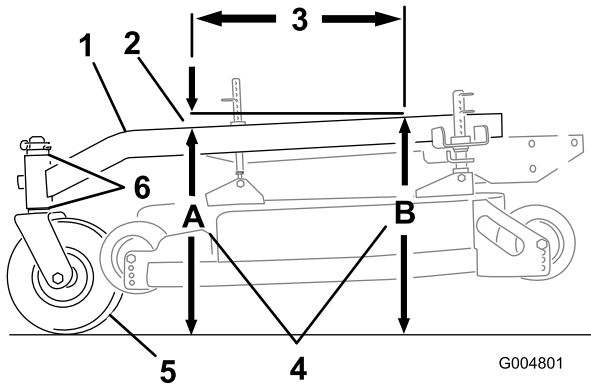

Figure 54
The carrier frame must have a pitch between 3 mm (1/8 inch) to 9 mm (3/8 inch) over the length of 61 cm (24 inches) on the carrier frame (Figure 54).
1. Measure out 61 cm (24 inches) on the carrier frame (Figure 54).
2. Measure the carrier-frame height at location A (Figure 54).
3. Measure the carrier-frame height at location B (Figure 54).
4. The height at location A must be a 6-10 mm (1/4-3/8 inch) lower than location B (Figure 54).
5. If the carrier frame is not correct, move caster spacers to make it a 6-10 mm (1/4-3/8 inch) pitch (Figure 54).